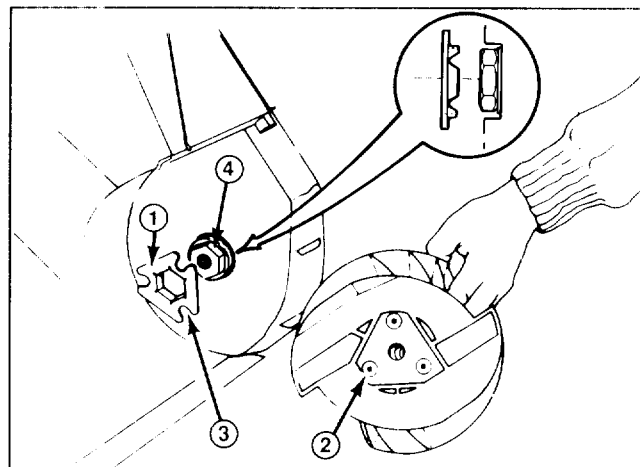

Figure 13
6. Align left side of new rotor with coupler. The 3 bosses on rotor end must align with slots on coupler (Fig. 13). When mounting coupler to drive hex, coupler tabs must be aligned to inside. Slide right side of rotor into mounting position.